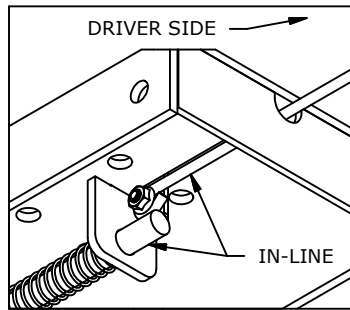

Figure F2.
2. **Secure handle.** Secure the handle to the pin with the 5/16" X 3/4" carriage bolt and 5/16" locking flange, see Figure F2. Note: The included 5/16" cap screw can replace the carriage bolt if wrench access on the "cab side" of the handle is limited. Tighten the nut until it is secure. Do not over-tighten and deform the handle eyelet.